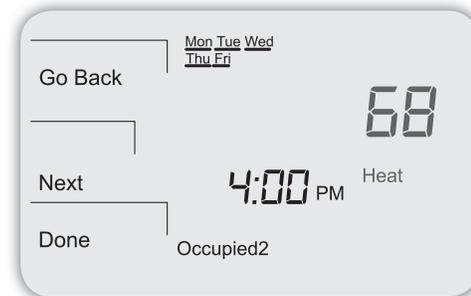

Figure 31. Select Heat Setpoint for *Occupied2* in School Schedule "Disabled."
20. Press **▲ / ▼** to select Heat Setpoint to be applied at the start of the School Schedule Disabled *Occupied2* (see Fig. 31).